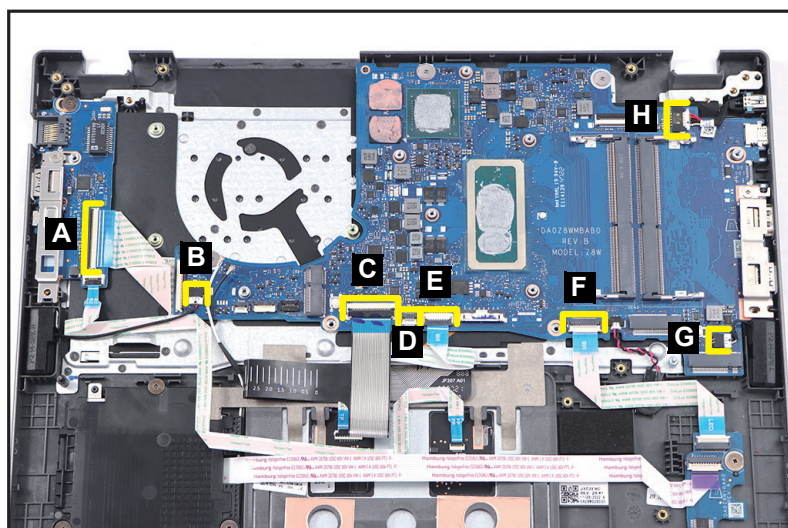

Figure 1-31. Mainboard Removal
1. Disconnect the USB board FFC from the mainboard connector (A) (Figure 1-31).
2. Disconnect the right fan cable from the mainboard connector (B) (Figure 1-31).
3. Disconnect the keyboard FPC from the mainboard connector (C) (Figure 1-31).
4. Disconnect the keyboard backlight FFC from the mainboard connector (D) (Figure 1-31).
5. Disconnect the touchpad module FFC from the mainboard connector (E) (Figure 1-31).
6. Disconnect the card reader board FFC from the mainboard connector (F) (Figure 1-31).
7. Disconnect the speaker cable from the mainboard connector (G) (Figure 1-31).
8. Disconnect the DC-IN cable from the mainboard connector (H) (Figure 1-31).